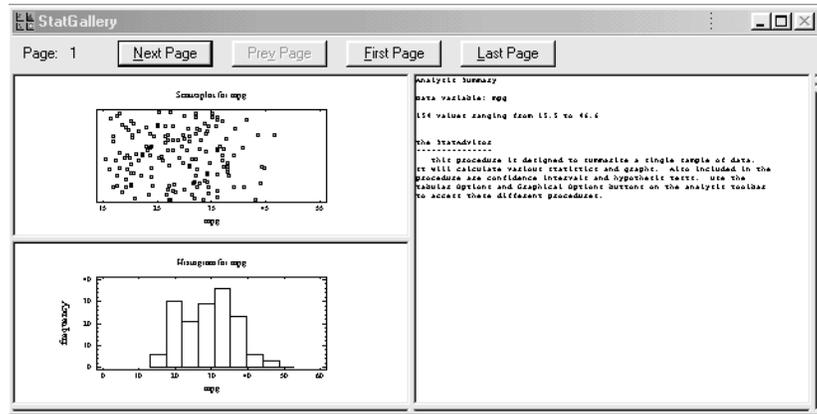

Figure 7-3. StatGallery Window with Different Items in Splitter Panes
- a single page of text from an analysis, the StatAdvisor, or the Comments window (see Figure 7-3).